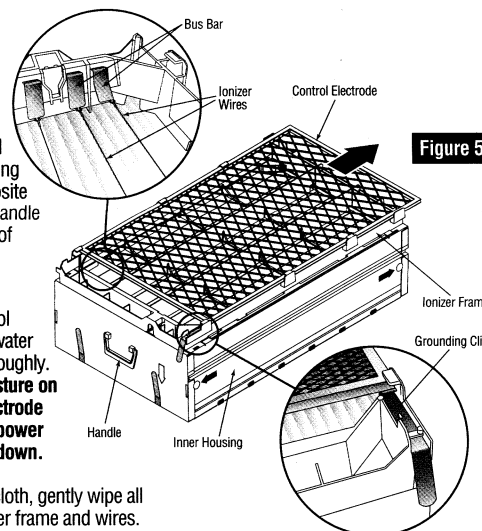

Figure 5
Step 15: Remove control electrode by lifting up on end opposite inner housing handle and sliding out of ionizer frame (see Figure 5).